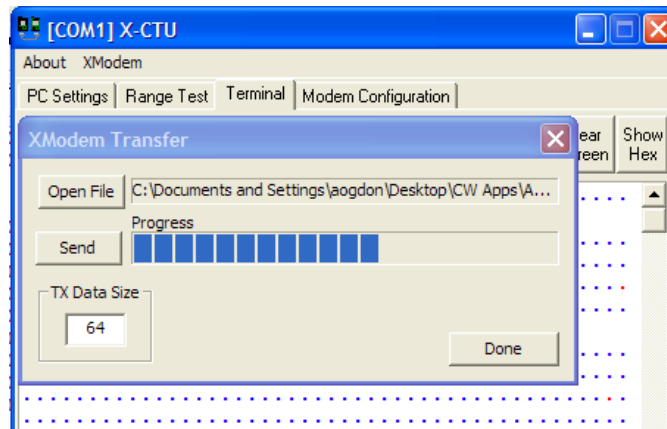

Figure 8: Upload the .bin File
- In the XModem window, click **Send**. The 'C' characters are a visual indication of the timeout during which the app file can be sent. If you miss that timeout, you can type in an **F** to start the process again. The file will be sent to the module. [Fig 8] Upon a successful update, the bootloader will run the newly loaded application.